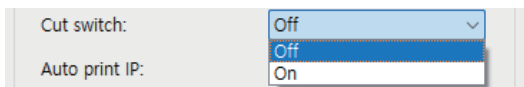

Fig.7
b. Cutter Setting: The cutter switch can be set to On or Off (see Figure 7). The cutter mode includes three options: